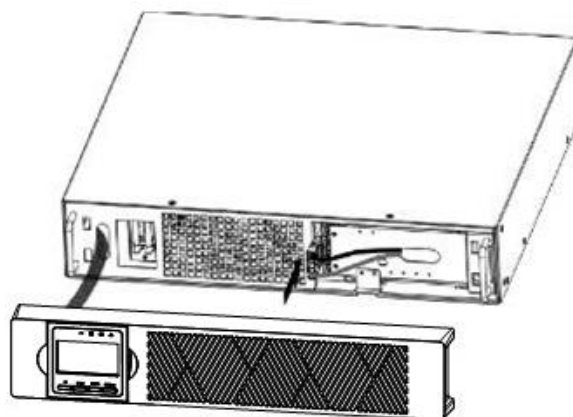

Figure 5 Connecting the UPS Internal Batteries
- a) Connect the internal battery connector (see Figure 5).